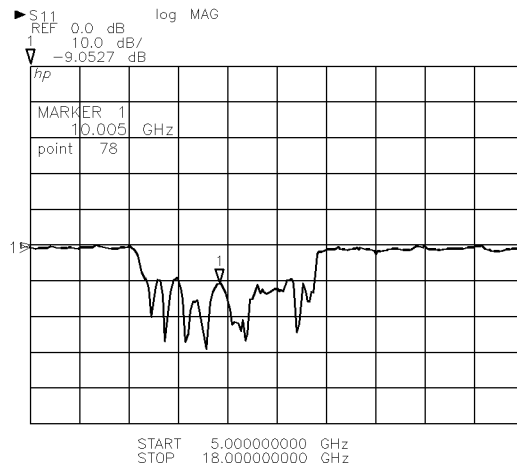

Figure 2-8. Return Loss: S_{11} LOG MAG
- b. Use the RPG knob to position the marker at any point on the trace. The measured return loss, magnitude and value at the marker position is displayed above the graticule. The frequency value is displayed in the active function area. See Figure 2-8 for an example of the typical display.